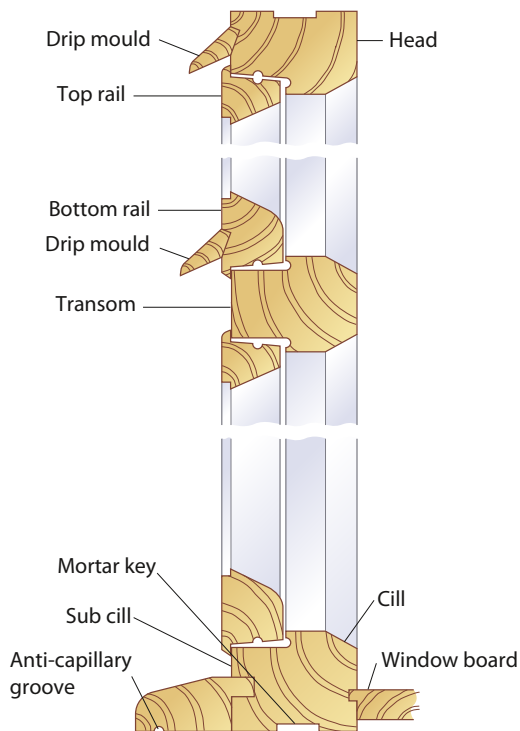

Figure 2.07 Detailed drawing
- detailed drawings, which show all the information needed to complete or manufacture a component (see Figure 2.07). These are usually drawn at a scale of 1:10, 1:5 or 1:1.